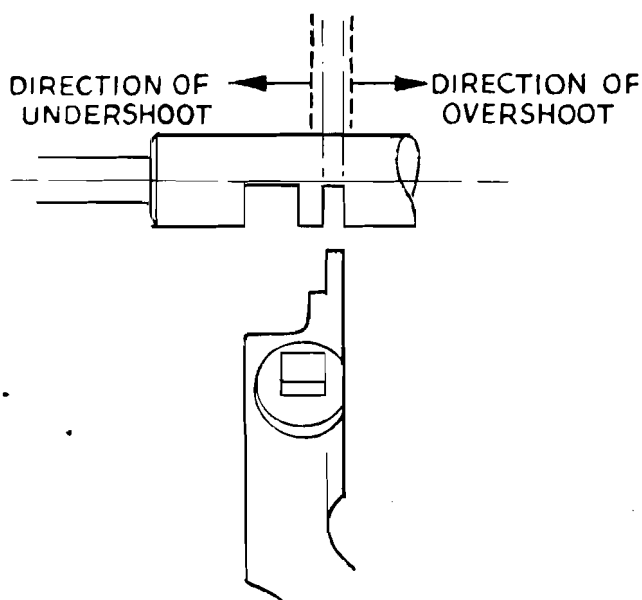

Fig. 13. Showing the correct method of accommodating backlash in cable operation.
35. Owing to the necessity for a clearance between the inner and outer cables, a slight amount of backlash will be noticed in the overdrive selector shaft. The cable should therefore be adjusted in such a way that the selector shaft overshoots and undershoots the finger on the interlock lever by an equal amount, as shown in Fig. 13.